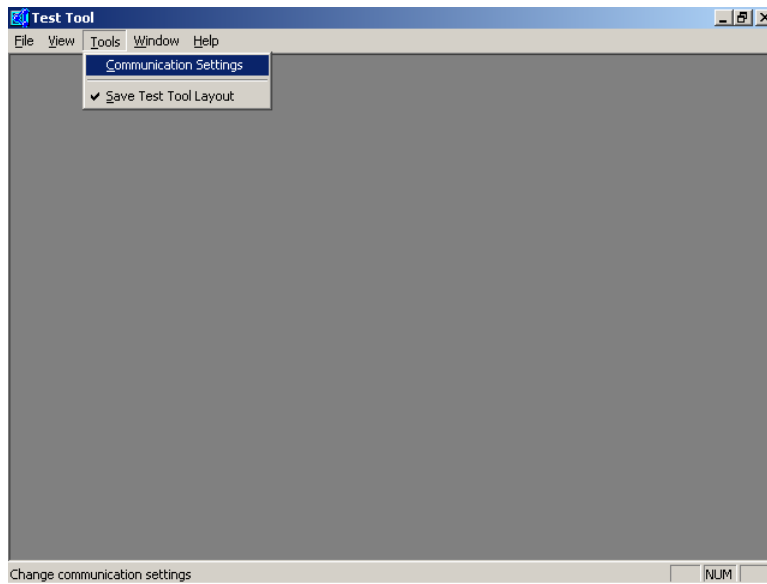

Figure 3-1. Test Tool Window (Configuration Settings Option)
4. Run the Test Tool utility from Windows by clicking on Start->Programs->Freescale Zigbee->Test Tool. The Test Tool main window appears as shown in Figure 3-1.
5. Setup the board connection from the Test Tool tollbar by clicking on View->Communications Settings, as shown in Figure 3-1.